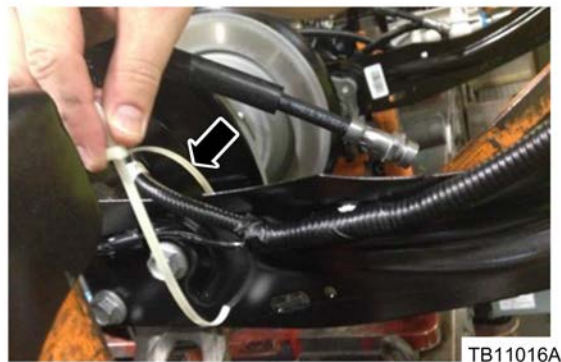

Figure 1 - Article 17-0040
5. Tie strap both harnesses to gain sufficient clearance away from both rear wheels. (Figure 1)